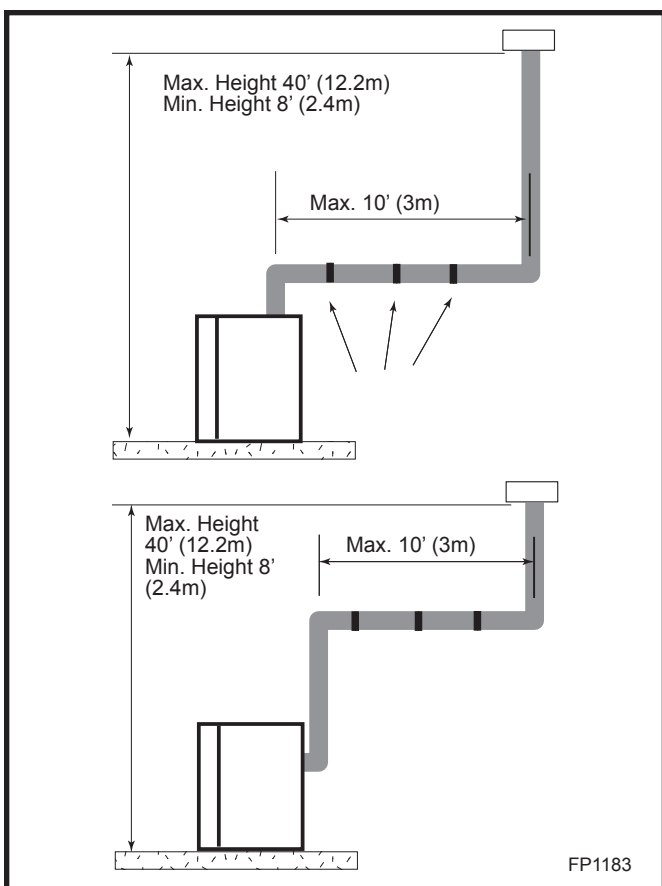

Fig. 41 Support straps for horizontal runs.
- Vertical installations up to 40' (12m) in height. Up to a 10' (3 m) horizontal vent run can be installed within the vent system using a maximum of two 90° elbows. (Fig. 41)